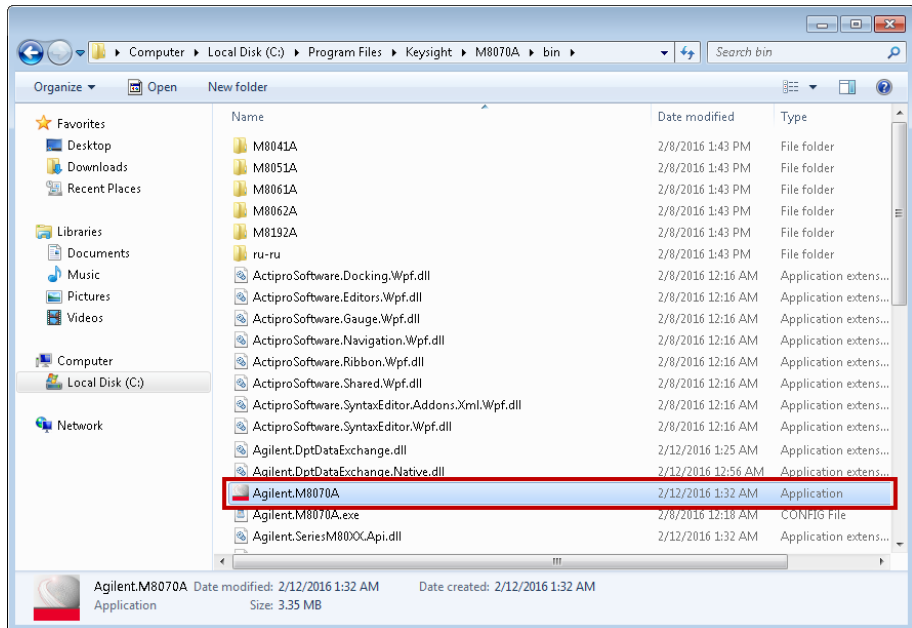

Figure 14 File explorer
- 1 Open file explorer and go to *C:\Program Files\Keysight\M8070A\bin* location as shown in the Figure 14 on page -25: